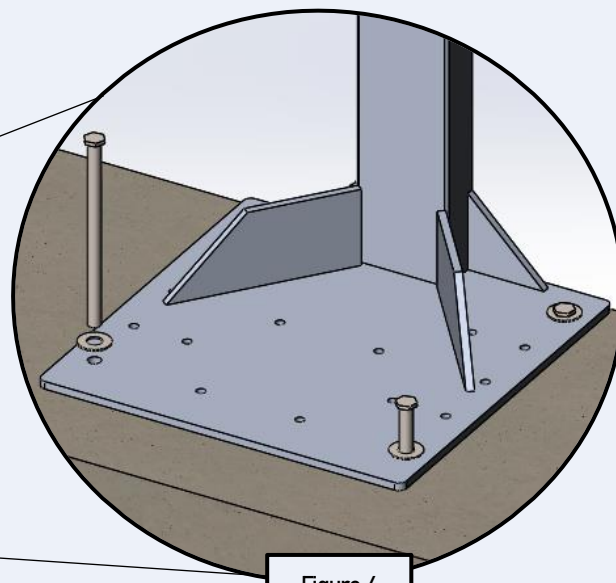

Figure 4
3. Align the swivel hinges on the housing above the hinges on the BASE MOUNT and insert 3 Nylon Washers between the hinges on the BASE MOUNT and the housing as shown in figure 4.
4. Slip one (1) flat washer over each of the three (3) 5/8" X 4-1/2" bolts and insert through each of the three (3) hinges as shown in figure 4.